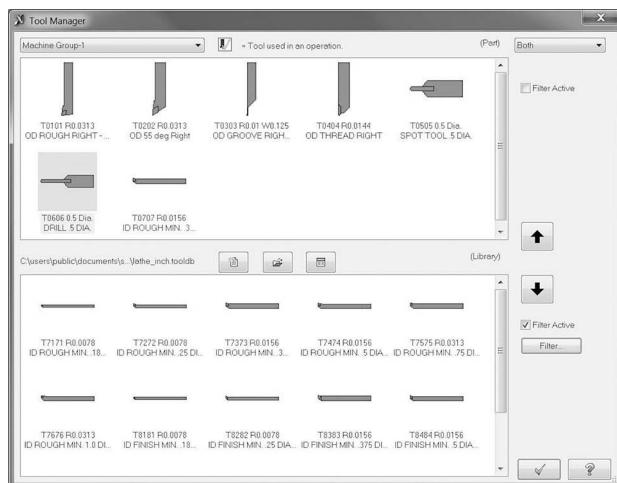
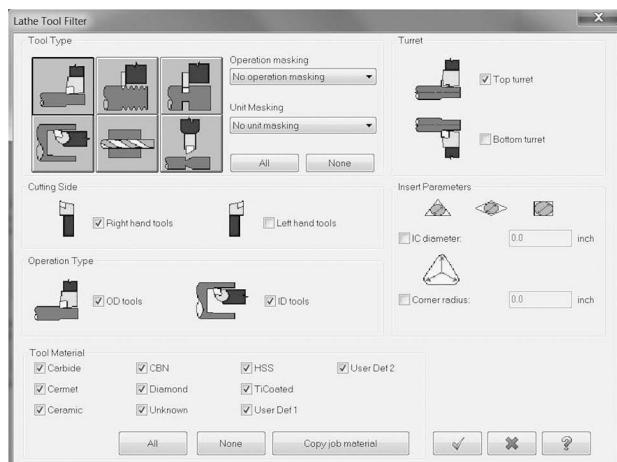

Figure 5-61 Lathe Tool Manager Dialog
Figure 5-62 Lathe Tool Filter
- From the Menu Bar, select **TOOLPATHS**—Lathe Tool Manager Set the filters to minimize the displayed tools to display General Turning only and press OK (Figure 5-61). From the library list, select each tool determined (based on the part geometry) and double-click to add to the used list (Figure 5-62). Press OK when all tools are selected.